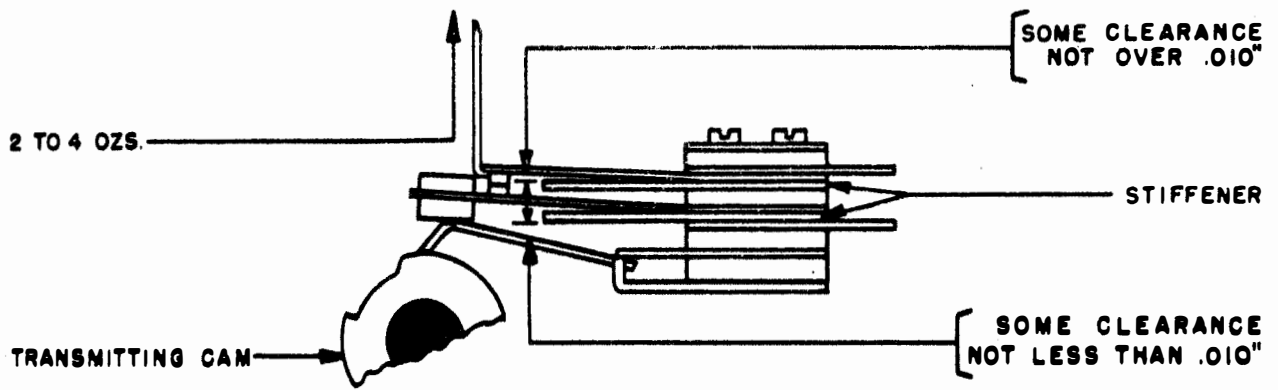
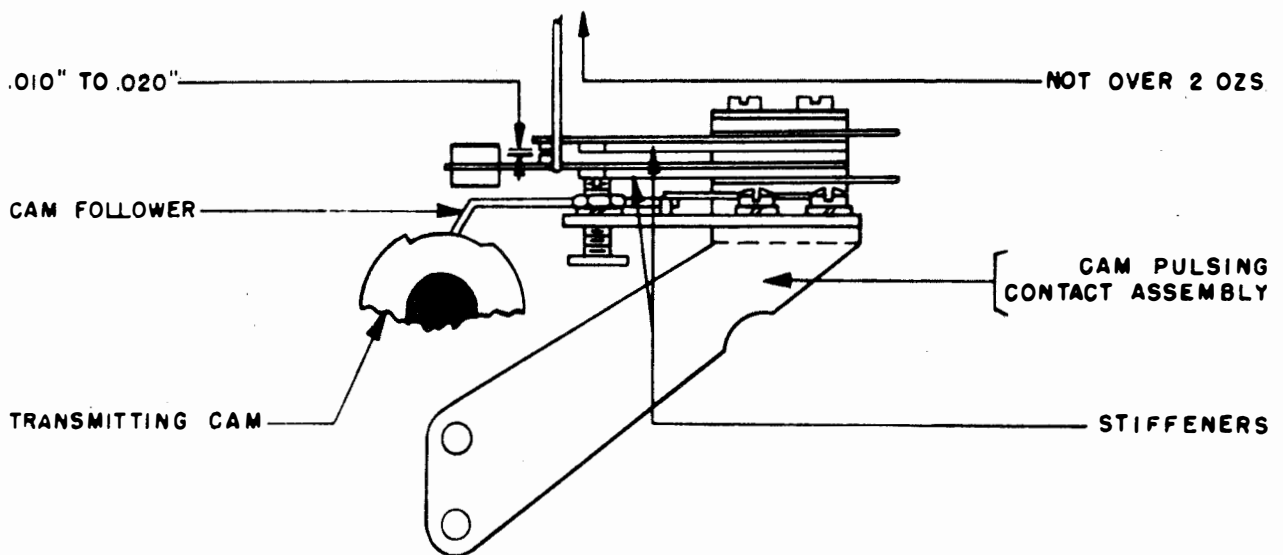

FIGURE 33C
FIGURE 33D
NOTE: The following cam pulsing contact assembly adjustments apply only to perforator transmitters equipped with the 112570 new style assembly including a single contact and hinged cam follower as shown on Figure 33D.
- (1) The cam follower should ride centrally on the cam throughout a complete revolution of the cam cylinder and the contact points should be in alignment. To adjust, loosen the contact pile-up mounting screws and position the assembly. Tighten the mounting screws.
- (2) With the cam follower resting on the high part of the cam make the following measurements and adjustments:
- (a) There should be some clearance not more than .010" between the short contact spring and its stiffener, measured at a point closest to the contact. To adjust, bend the stiffener. See Figure 33C.
- (3) Rotate the transmitting cam assembly until the tip of the cam follower falls into the cam indent to make the following measurements and adjustments:
- (a) There should be .010" to .020" clearance between the contact points. To adjust, bend the lower stiffener. See Figure 33D.
- (4) With the cam follower resting on the high part of the cam there should be at least .010" clearance between the lower stiffener and the cam follower. See Figure 33C. If this requirement is not met it may be necessary to bend both stiffeners upward and completely readjust the assembly.